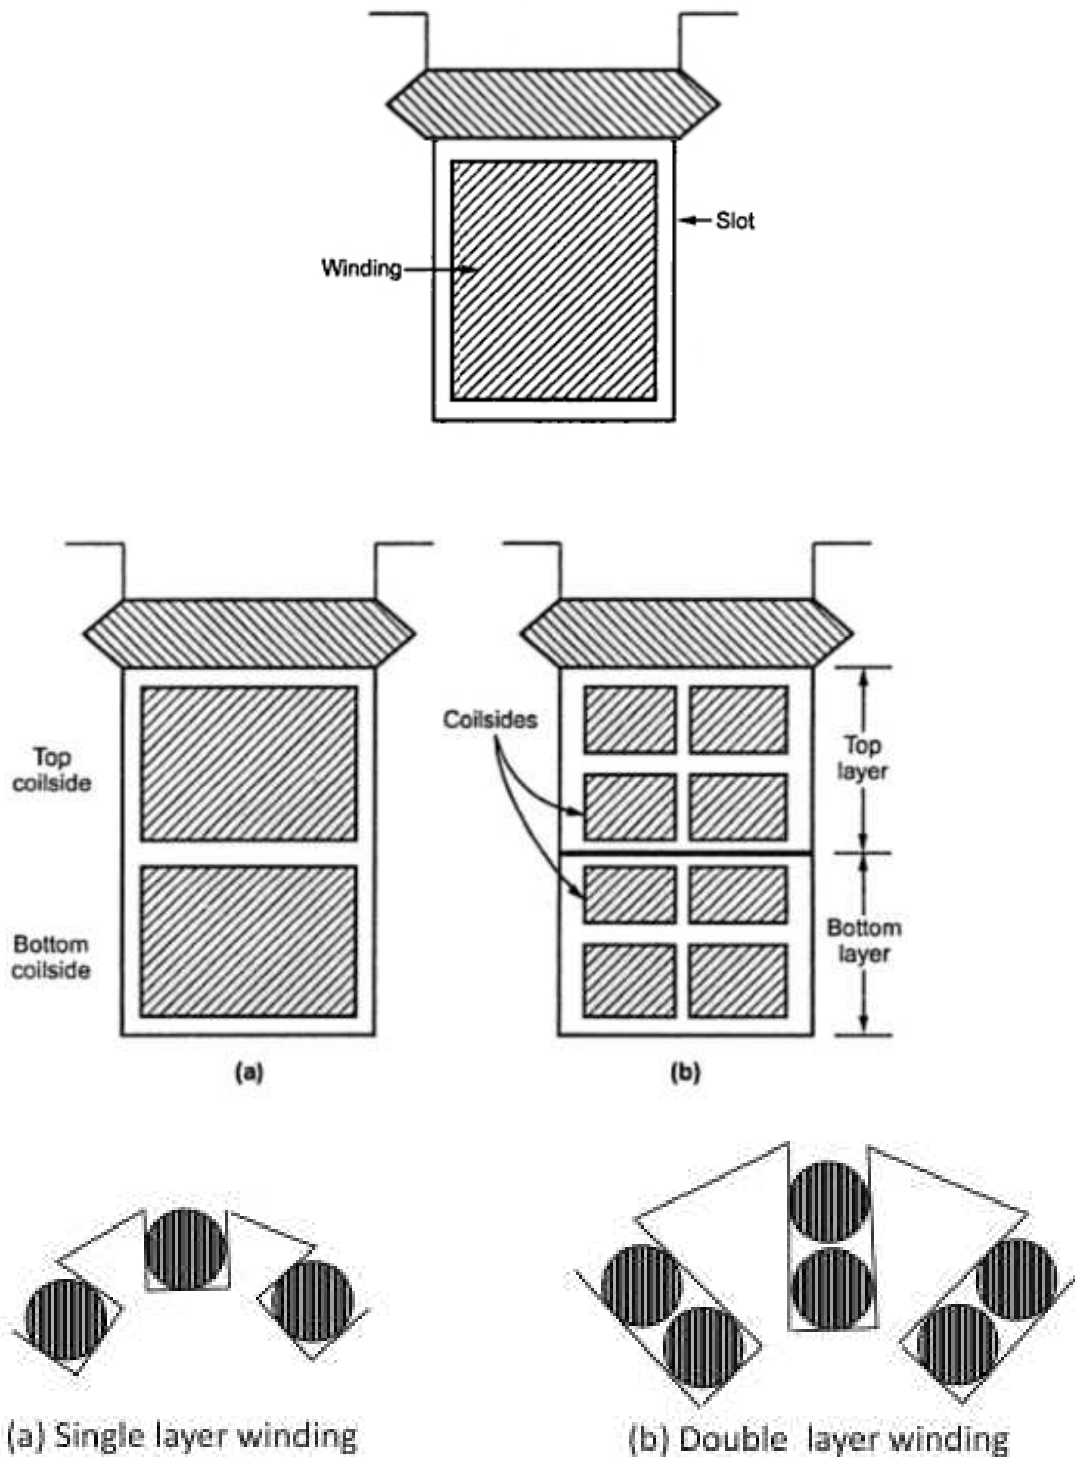

Fig.4 Single and double layer windings
**Double layer winding:** Two coil sides are placed in a single slot. Single and double layer windings are shown in Fig 4